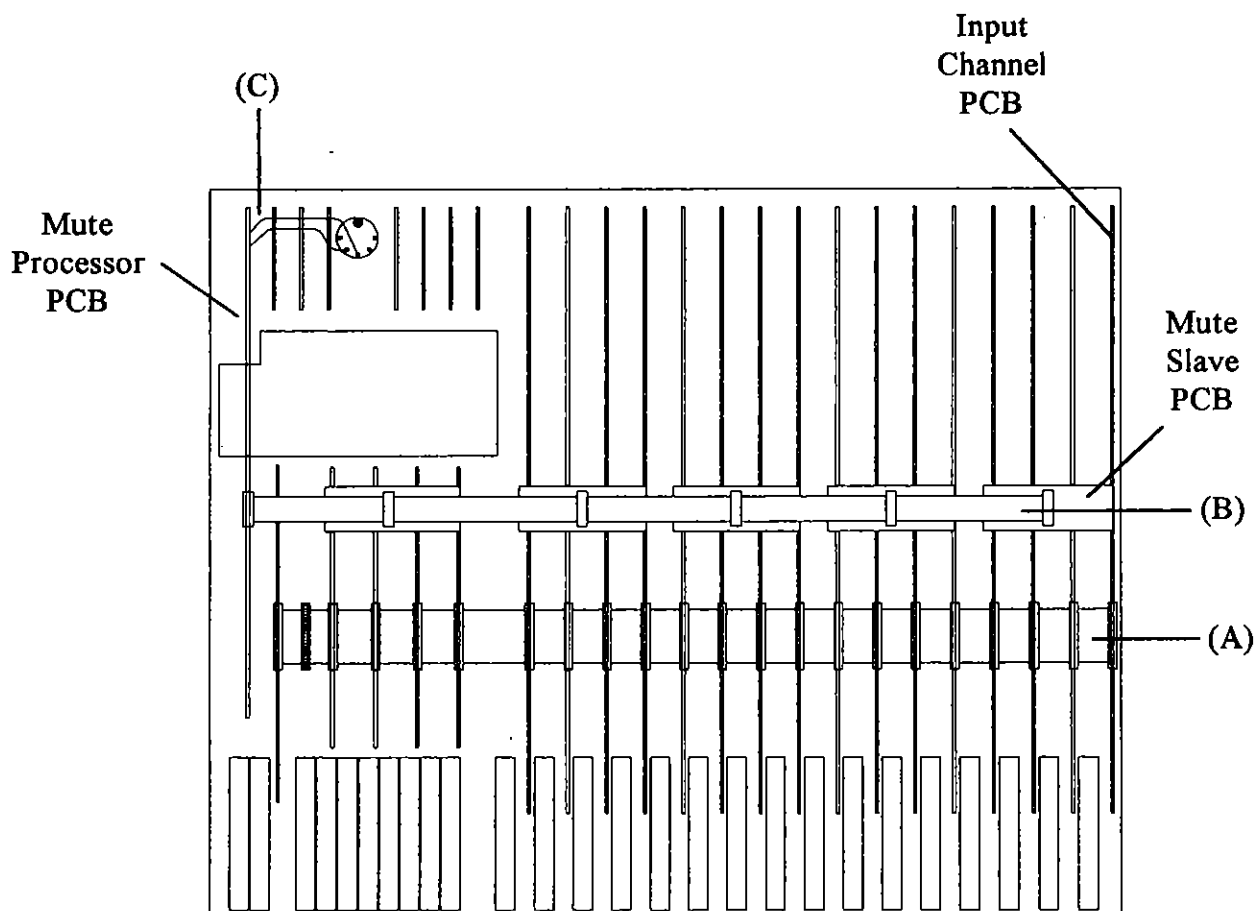

Fig. 2.
1. Refer to *Fig. 2*. Remove the main ribbon harness (A). Remove the Mute Slave harness (B) by first cutting the cable ties holding the harness connectors to the Mute Slave PCBs. **Do not** cut the cable ties holding the Mute Slave PCBs to the Channel PCBs.